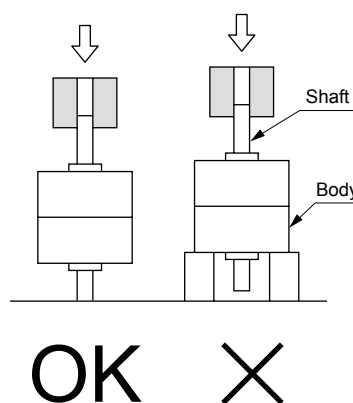

Fig. 3
- When installing a load or jig, etc., on the rotary actuator shaft, check that load is not applied to the body as shown in Fig.3.
(3) Turn the angle adjustment hexagon bolt, hexagon nut, and seal washer together as shown in Fig.3, and adjust the angle. Check that the rubber section of the seal washer does not bite into the thread part.